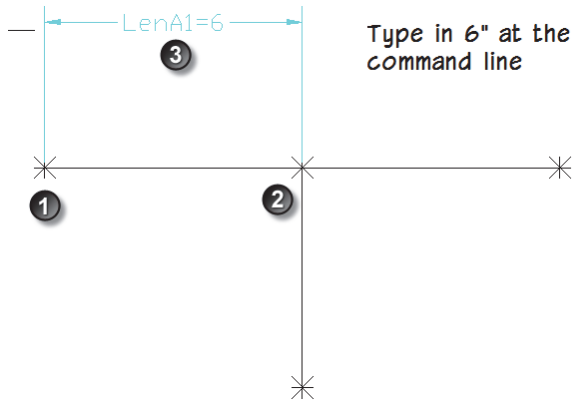

FIGURE 11.7
23. Select the left-most point and the middle point on the horizontal line. Click a point above the line to place the dimension and type in **6"** at the command line (see Figure 11.7).